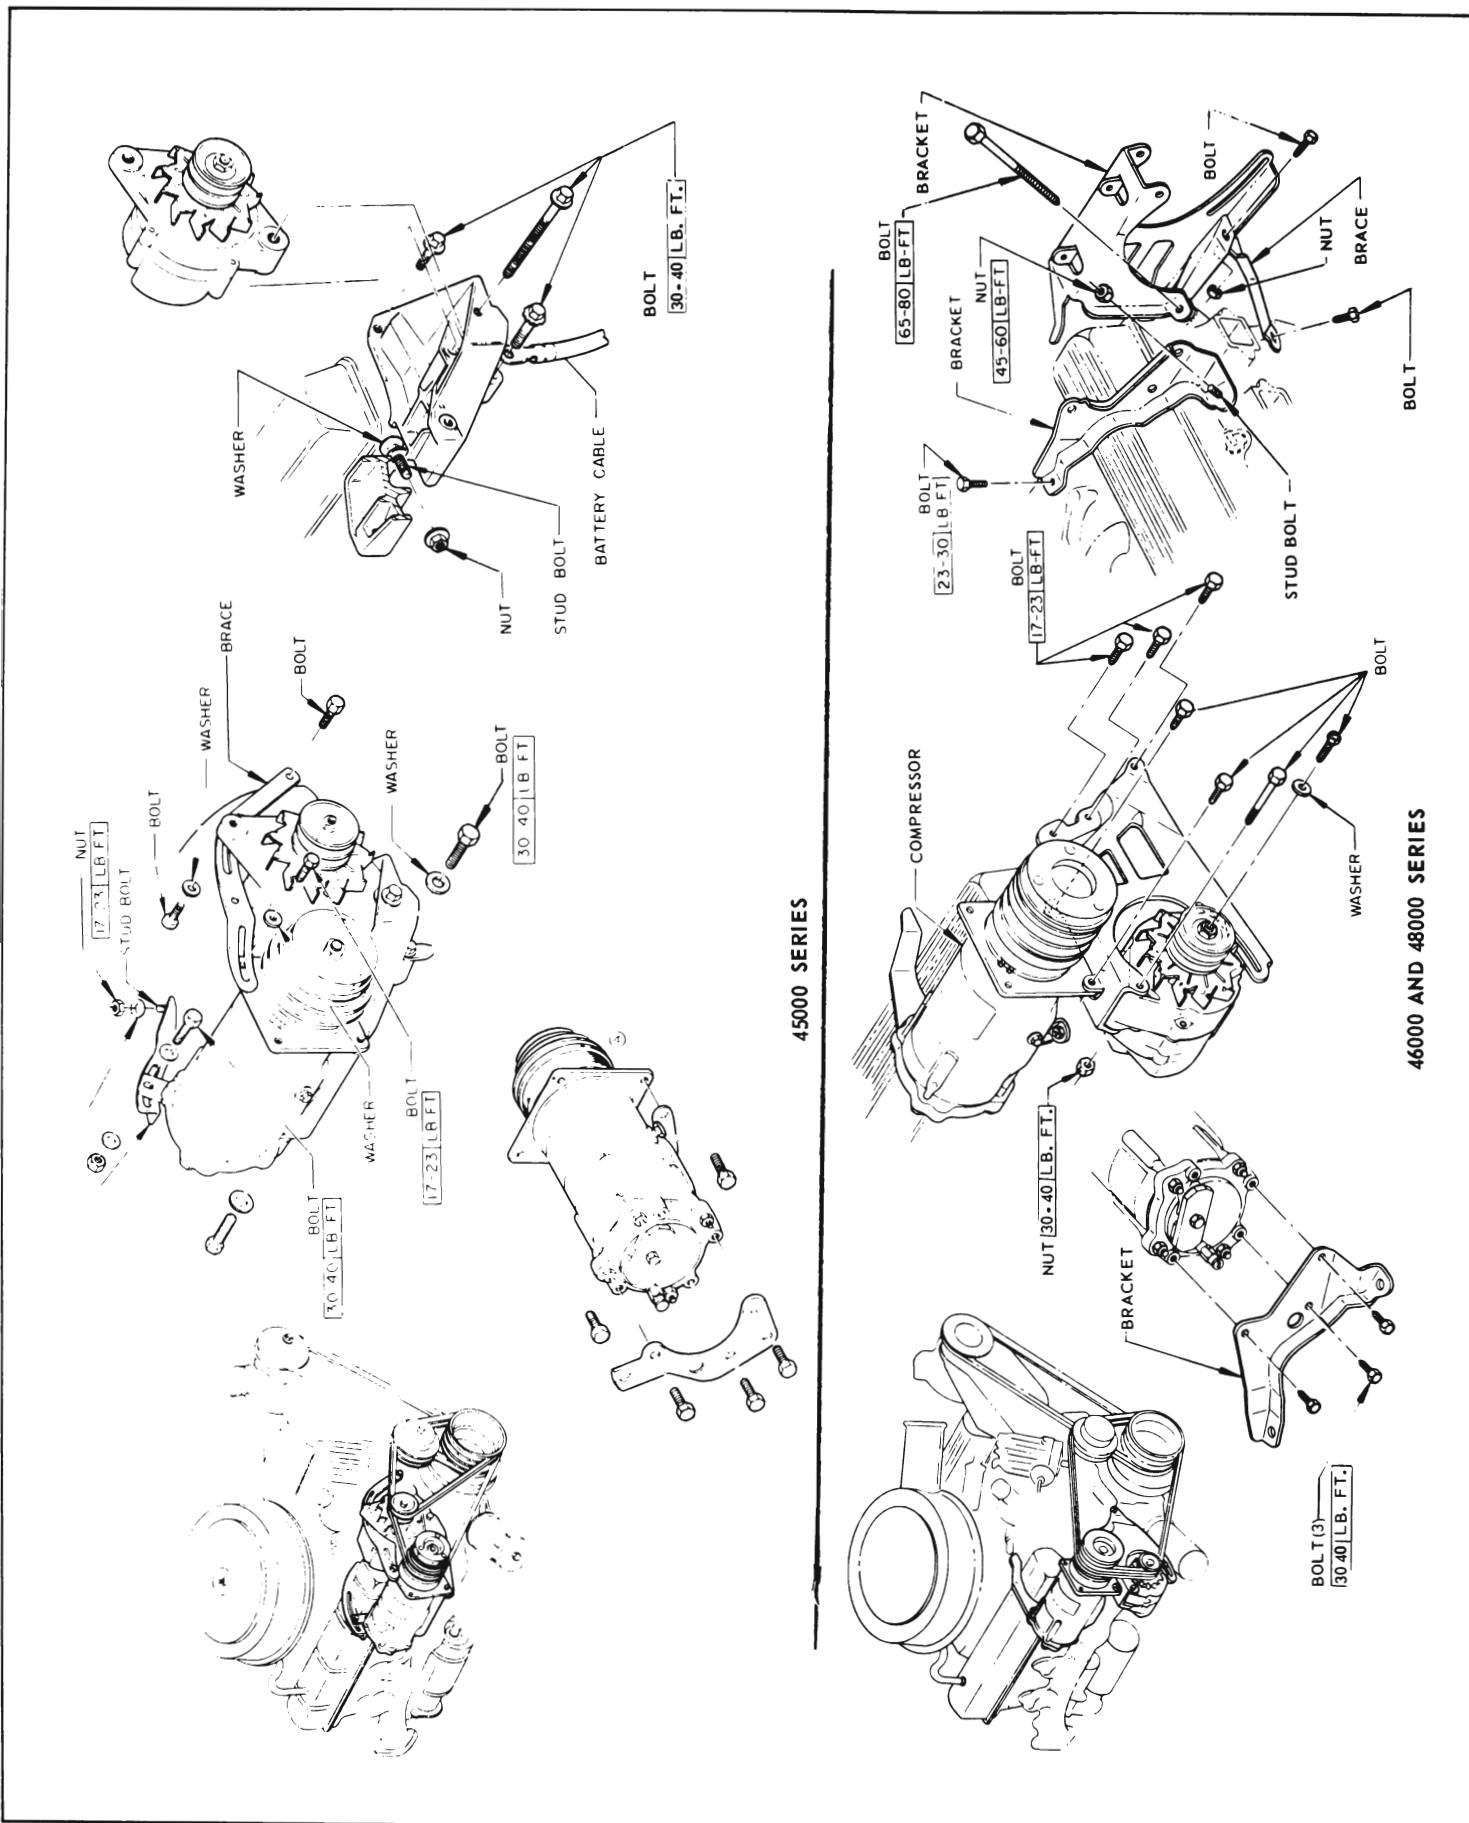

Figure 11-92—Compressor Installation - 45000, 46000 and 48000 Series
4. Disconnect magnetic clutch coil wire connector, then loosen the belts and remove compressor from its mounting on engine. See Figures 11-92 and 11-93.